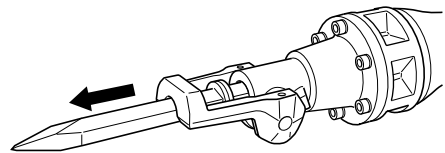

Fig. 4
- (3) Clamp the accessory into place by bringing the retainer to the clamp position. To make sure that the accessory is properly mounted, pull on the accessory. (Fig. 4)